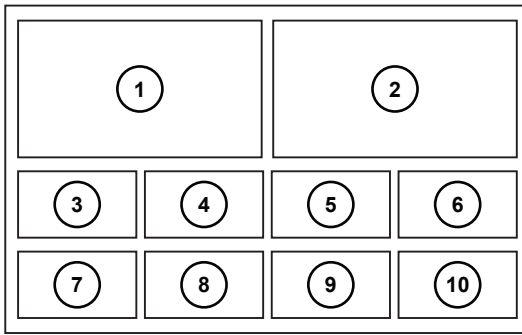

Figure 5.5 MultiViewer Layout
5. Use the **Box** knob to select a box on the MultiViewer display. Refer to Figure 5.5 for the locations of the boxes.